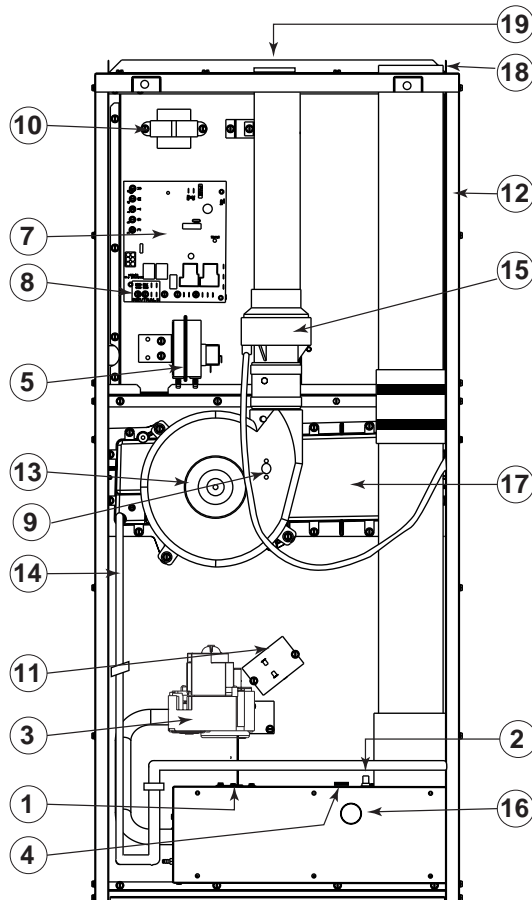

Figure 28. Location of Major Components
Figure 28 shows the location of each of the functional components described below. If any component of the furnace must be replaced, use only factory authorized replacement parts. See the Replacement Parts List for each component.
If the furnace locks out after 5 attempts for ignition, it will try again every hour if a call for heat remains. If the inducer and circulating air blowers are operating, and items 1 through 8 have been checked, press the red reset button on the vent safety switch. (See Figure 28.) If the furnace operates after depressing the reset button, contact a qualified serviceman to identify and repair the problem.
If the furnace continues to not operate, depress the red reset buttons on the flame rollout switches. (See Figure 28.) If the furnace operates after depressing the reset buttons, contact a qualified servicemen to identify and repair the problem.